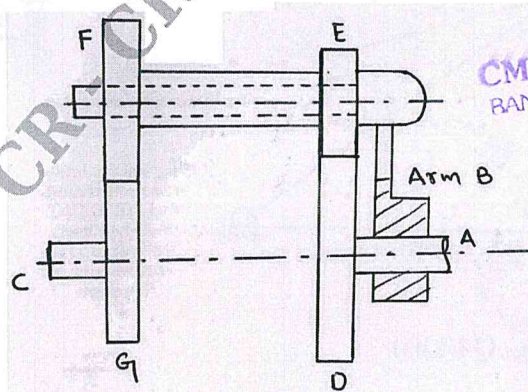

Fig. Q8
- 8 An epicyclic gear train is shown in Fig. Q8, wheel D is held stationary by the shaft A and arm B rotates at 200 rpm. The wheel E (20 teeth) and F (40 teeth) are fixed together and rotate freely on a pin carried by the arm. The wheel G (30 teeth) is mounted on shaft C. Find the speed of shaft C, stating the direction of rotation relative to that of B. If the gearing transmits 7.5 kw, what is the holding torque on shaft A? (16 Marks)